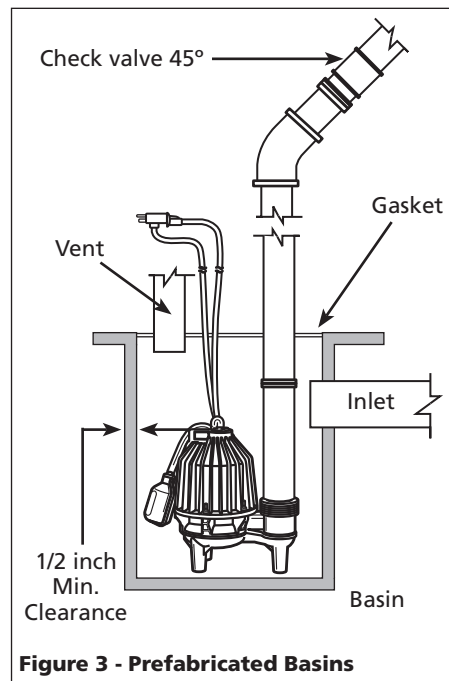

Figure 3 - Prefabricated Basins
6. The pump has a detachable tether switch with a piggyback plug (see Figure 3). The length of the tether (distance of cord from float to clamp) should not be set shorter than 3-1/4 inches and should not be used in a basin smaller than 14 inches in diameter. If using a differential other than the factory setting, be sure when the pump shuts off at least 4 inch of fluid is left in the basin so the impeller remains submerged.